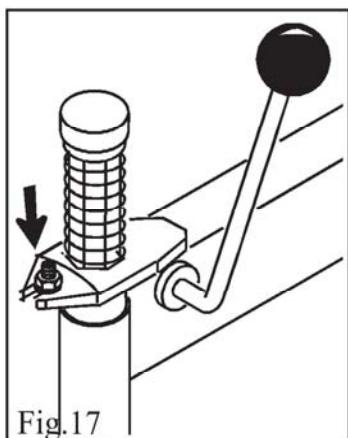

Fig. 17
- If necessary to adjust the vertical arm locking plate because the tool does not lock or it does not rise from the rim of 2mm necessary for working, adjust nuts as shown in Fig. 17.